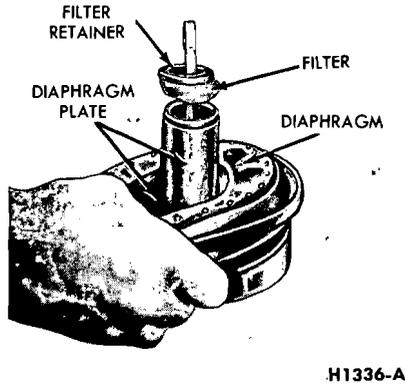

FIG. 38—Removing Diaphragm—Bendix Booster
7. Remove the diaphragm from the diaphragm plate as shown in Fig. 38.
5. Tuck the filter into place in the plate hub. Press the filter retainer onto the hub being careful not to chip or damage the plastic. (Fig. 38).
6. Install the diaphragm on the diaphragm plate, making sure that the diaphragm lip is tucked in all around the recess between the hub and the plate (Fig. 38).